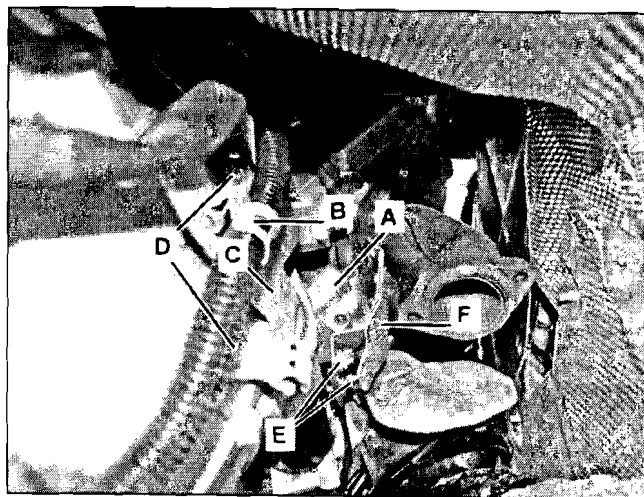

Figure 4
3. Remove starter (A, Figure 4).
- Pry cable holder (B) from transmission bracket (C).
- Remove transmission bracket bolts (D, Figure 4).
- Remove starter heat shield bolts (E); remove heat shield (F).